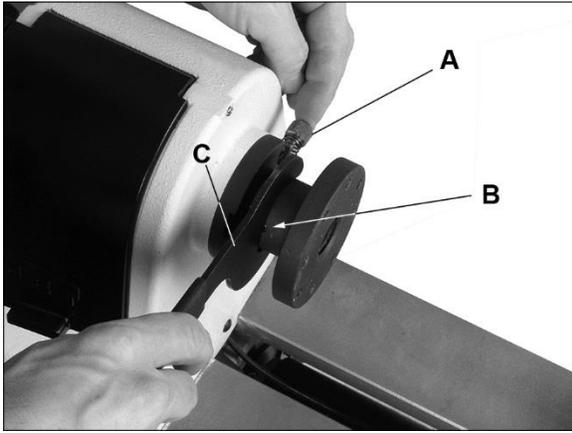

Figure 5
Referring to Figure 5:
6. Back out both set screws (B, Figure 5) in the faceplate.
7. Engage spindle lock (A).
8. Place wrench (C) over flats and turn to unscrew faceplate.